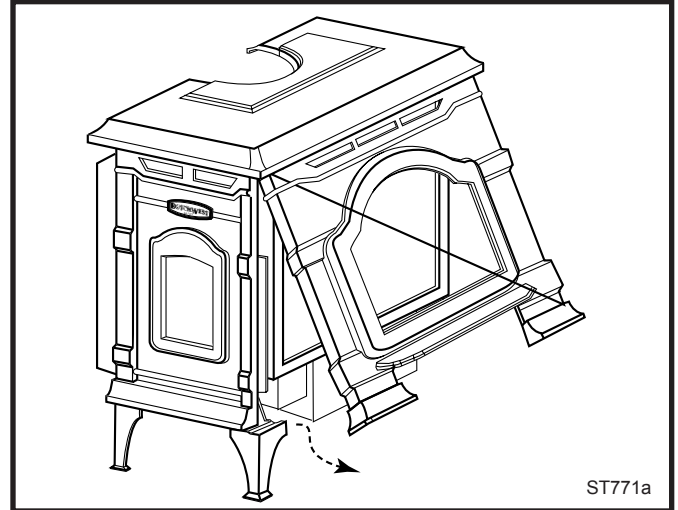

Fig. 36 Remove stove front.
1. Remove stove front. Lift stove front up and then swing bottom out and away to disengage from the stove body. (Fig. 36)